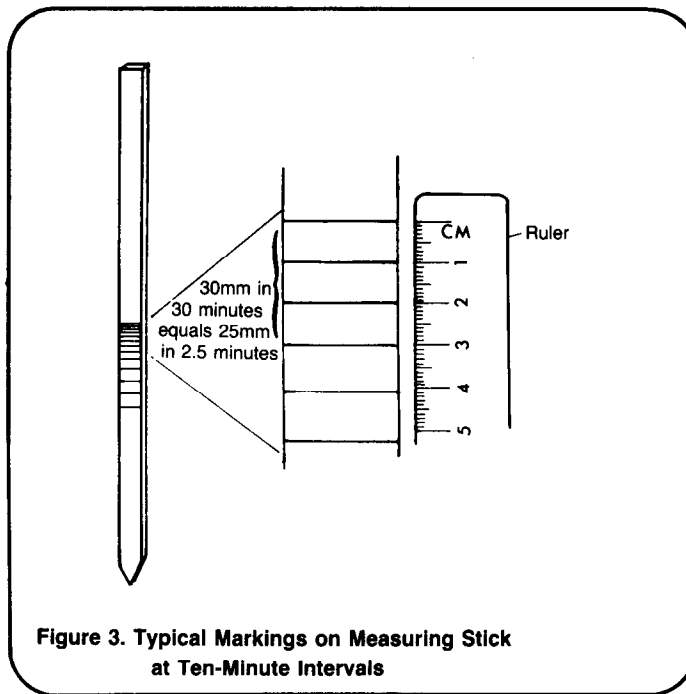

Figure 3. Typical Markings on Measuring Stick at Ten-Minute Intervals
8. Note the spacing between the pencil marks on the slat. When at least three spaces become approximately equal, as shown in Figure 3, the test is completed. This may take as little as one-half hour or as long as several hours.
9. Using the measuring tape or ruler, measure the space between the equal pencil markings and compute how long it took the water level to drop 25mm. This step is necessary because percolation rates are described in terms of "minutes per 25mm." This can be approximated closely with the ruler and a series of equally spaced markings on the slat, as shown in Figure 3, or it can be calculated. Worksheet A shows how to tabulate information and calculate soil suitability.